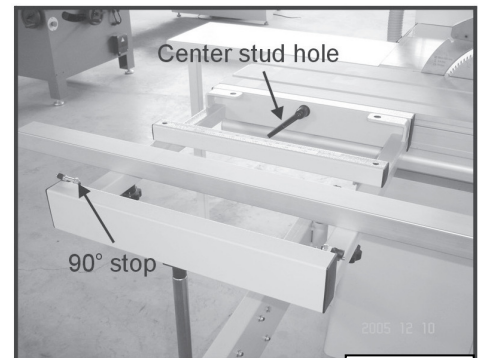

Fig. 38
1. Install the crosscut fence in the center stud hole. (Fig. 38)